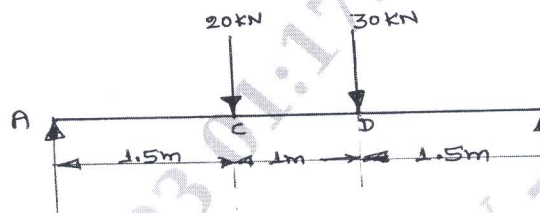

Fig.Q.8(b)
- b. For the beam loaded as shown in Fig.Q.8(b) find equation of slope and deflection. Using this equation find deflection at C and D. Take  $E = 200\text{GPa}$  and  $I = 3 \times 10^8\text{mm}^4$ . (10 Marks)